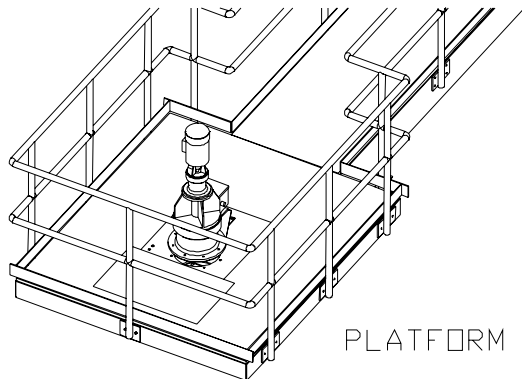

Figure 2.WW.4.
12. Grout between the bearing plates and tank wall. See Figure 2.WW.1. After the final level for the walkway and drive unit has been achieved. Grout is not by WesTech.